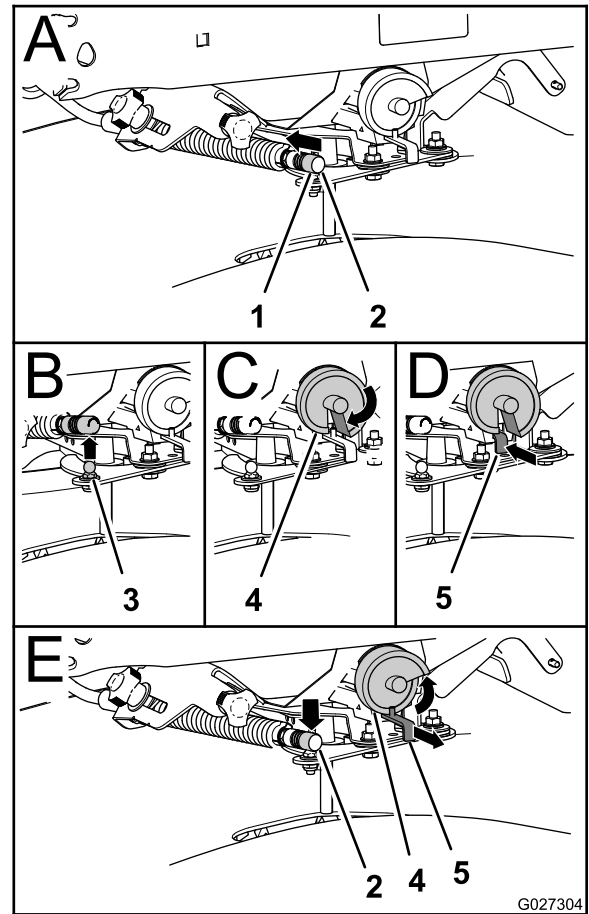

Figure 29
- A. Push the locking sleeve for the gate cable rearward and lift the cable up from the ball stud of the rate gate linkage (Figure 29).
- B. Pull the cable off the ball stud (Figure 29).
- C. Rotate the drop-rate cam past the position 9 so that the slot in the cam is aligned with the linkage (Figure 29).
- D. Fully push the linkage rearward (Figure 29).
- A. Pull the linkage out until it clears the drop-rate cam (Figure 29).
- C. Attaching the cable to the ball stud at the gate lever(Figure 29).